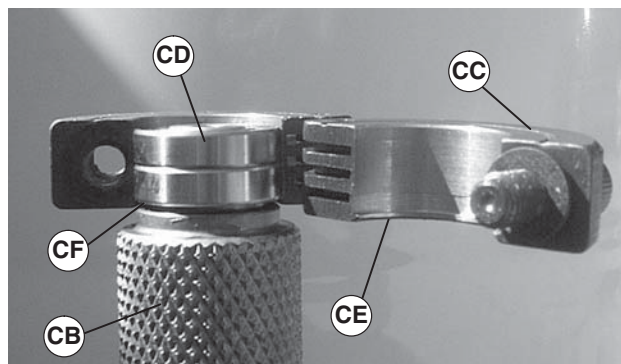

Figure 41
1. Place bearing removal tool (part # 450281) (Figure 41, item CC) over bearing (CD) with lip (CE) located in gap (CF) between bearing and spindle (CB) as shown.